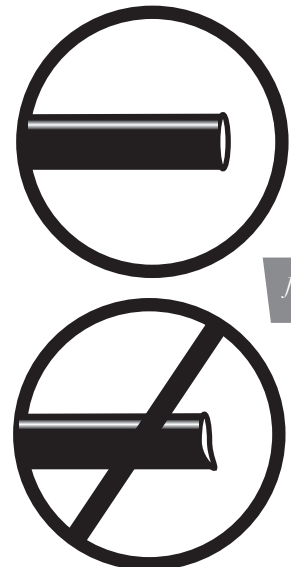

fig. 8
- a. Check the air line connection by deflating the spring and removing the line by pulling the collar against the fitting and pulling firmly on the air line. Trim 1" off the end of the air line. Be sure the cut is clean and square (see fig. 8). Reinsert the air line into the push-to-connect fitting.
2. If the preceding steps have not resolved the problem, call Air Lift customer service at (800) 248-0892.